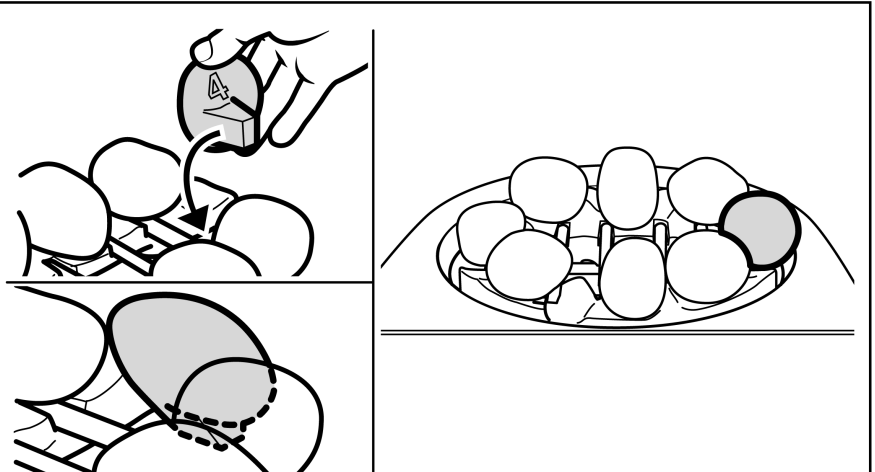

Figure 33 Pebble number '4' Location
7. Pebble '4' has a location peg on the underside. The peg has a chamfer on one side. The chamfer must face the burner. Locate pebble '4' onto the right hand side of the pebble base. It should bridge the gap between the front and rear halves of the pebble base. Pebble '4' should not touch the burner cover (See figure 33).